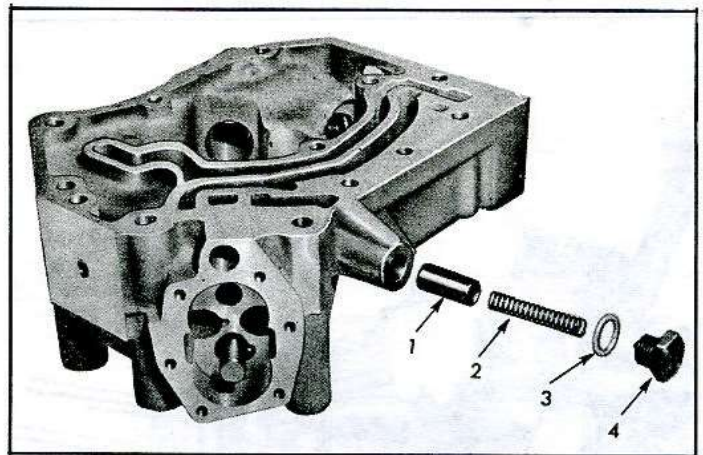

Fig. 113—Pressure Regulator—Exploded View
2. Remove pressure regulator plug, gasket, spring and valve (fig. 113).